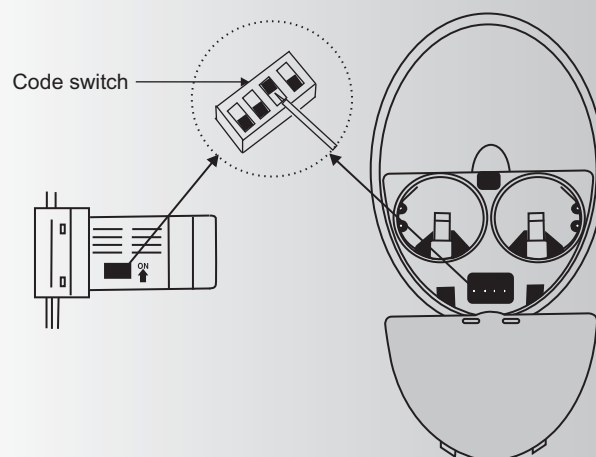

Fig. 12
**NOTE:** The CoolTouch™ Control System is equipped with 16 possible frequency combinations to prevent interference from or with other remote control units. The frequency switches on your receiver and transmitter have been preset at the factory. Please recheck to make sure the switches on transmitter and receiver are set to the same position, any combination of settings will operate the fan as long as the transmitter and receiver are set to the same position. (Fig. 12)